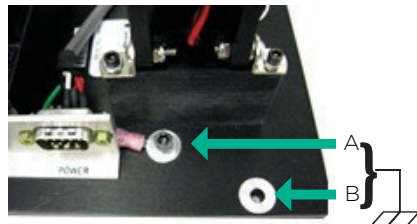

Figure 3
3. Make sure that the servo stack is tied to the system Chassis Ground by one of the locations (A) or (B) shown in Figure 3.